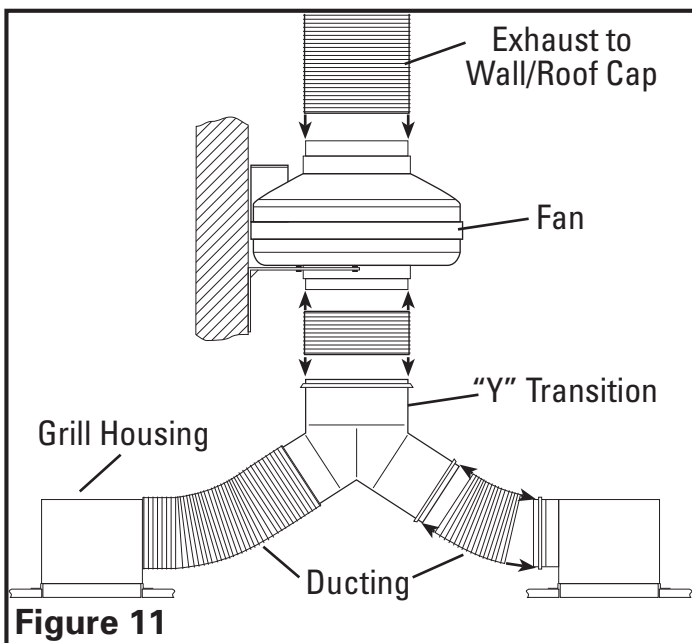

Figure 11
1. Connect one end of the ducting (not included) to the room level grill housing and the other end to the "Y" transition. Secure both ends in place using tape or a screw clamp to create as air tight a seal as possible. Repeat this step for the other room level grill housing (**Figure 11**).
2. Connect one end of the ducting to the top of the "Y" transition and the other end to the intake of the fan (**Figure 11**).
3. Connect one end of the ducting to the exhaust of the fan and the other end to a wall or ceiling cap. (**Figure 11**). Always duct the fan to the outside through a wall or roof cap.